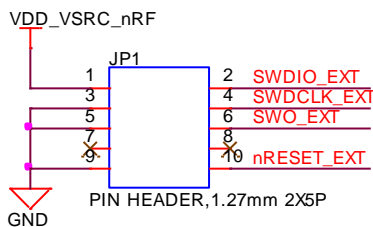

Figure 7: BL653 development board schematic
**Note:** Reference on the BL653 development board schematic (Figure 7) shows the DVK development schematic wiring only for the SWD (JTAG) connector and the BL653 module JTAG pins.
SWD (JTAG) is required because Nordic SDK applications can only be loaded using the SWED (JTAG) (*smartBASIC* firmware can be loaded using SWD (JTAG) as well as over the UART). We recommend that you use SWD (JTAG) (2-wire SWD interface) to handle future BL653 module firmware upgrades. You **must** wire out the JTAG (2-wire SWD interface) on your host design (see Figure 7, where the following four lines should be wired out – SWDIO, SWDCLK, GND, and VCC). *smartBASIC* firmware upgrades can still be performed over the BL653 UART interface, but this is slower than using the BL653 JTAG (2-wire SWD interface) – (60 seconds using UART vs. 10 seconds when using JTAG).
We recommend that you use JTAG (2-wire interface) to handle future BL653 module firmware upgrades. You MUST wire out the JTAG (2-wire interface) on your host design (see Figure 7, where four lines should be wired out, namely SWDIO, SWDCLK, GND and VCC). Firmware upgrades can still be performed over the BL653 UART interface, but this is slower (60 seconds using UART vs. 10 seconds when using JTAG) than using the BL653 JTAG (2-wire interface).